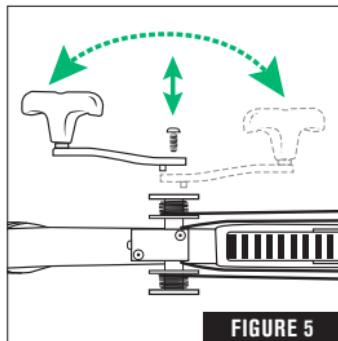

FIGURE 5
4. To achieve clearance of the string you will need to reverse the crank handle position 180° on the pulley as shown in Fig. 5. Loosen the 1/4-20 Button head screw to remove and flip the crank handle. Firmly re-tighten the screw.